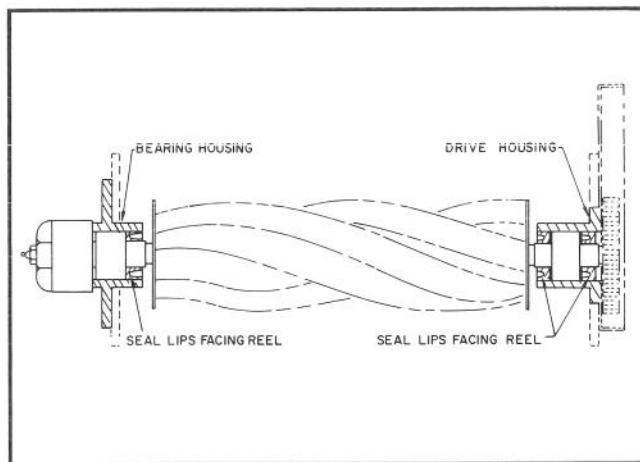

Figure 31
2. Assemble the outer seal (lip facing in to retain grease) into the drive housing using Loctite 242 retaining compound on the outer diameter. Apply a light coat of oil to the seal lips and insert the bearing assembly through the seal from the opposite side (Fig. 31).
3. Apply a light coating of oil to the inner seal lips and install (lip facing away from the bearing and toward the reel) in the housing. Install the retaining ring to secure the assembly in the housing (Fig. 31).
4. Apply a light coat of oil to the seal lips of the seal for the bearing housing and install (lip facing away from the bearing) over the bearing assembly (Fig. 31).